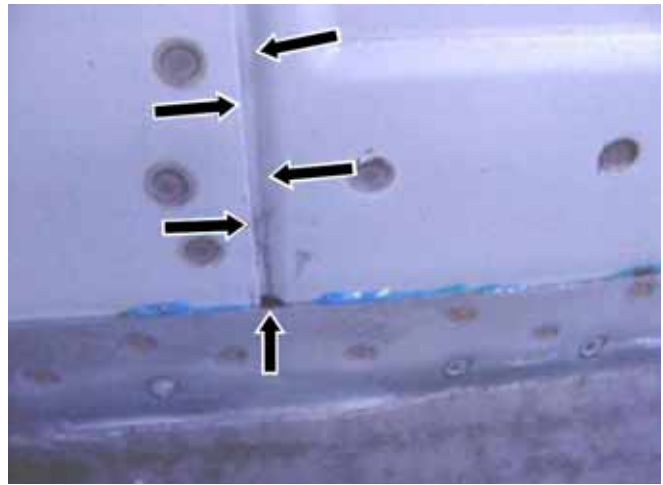

Figure 12
- Seal body seam and sheet metal flange (arrow, Figure 12).